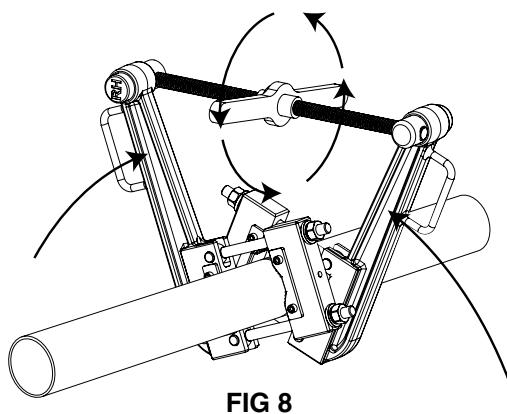

FIG 8
4. Turn the spinner handle in a direction that draws the first and second wrench handles toward each other, thereby tightening the joint between first and second components. Continue tightening until the two components make full shoulder contact, then continue to turn spinner handle for 1/4 to 1/2 revolution. The joint is now properly tightened. See FIG 8, 9.